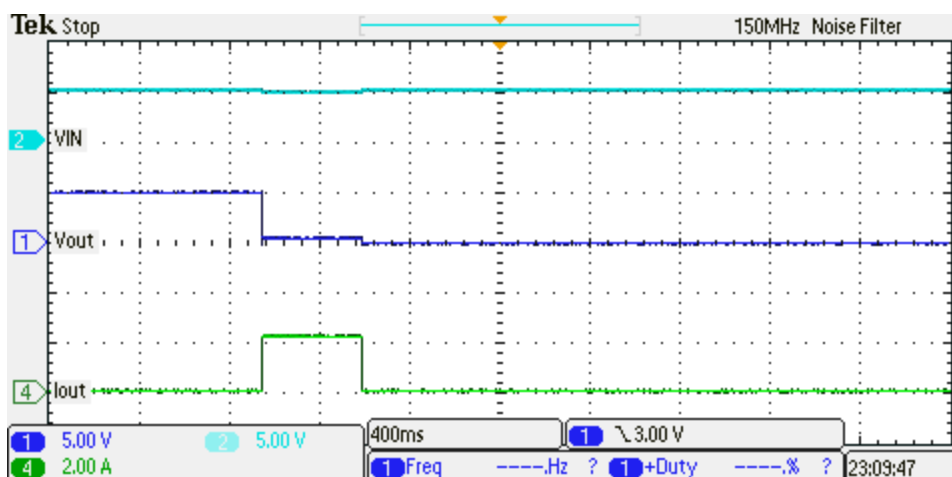

Figure 3. J3 = "ILIM-LO" Current Limit (2.1 A) Test-Latched Feature (CH1)
- Set the output load at  $0.5 \pm 0.1 \Omega$  on CH1 and then enable the load. Turn on the VIN1 power supply, verify that input current is limited as per the setting in Table 9 and the device is in latched mode, as shown in Figure 3. The level of the current pulse should match with the load current limit (based on the respective jumper setting) as per Table 9.